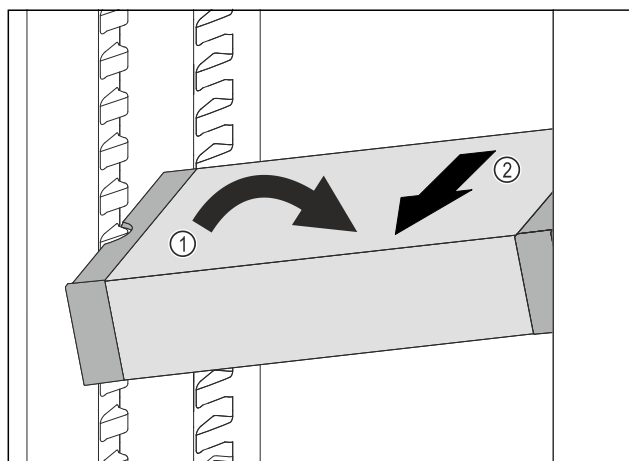

Fig. 206
- Set VarioSafe in refrigerator compartment at an angle. Fig. 206 (1)
- Take VarioSafe out to the front. Fig. 206 (2)